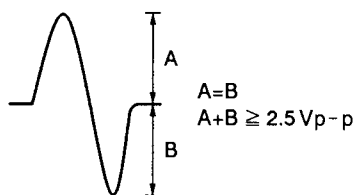

Figure 8
3. While watching the oscilloscope screen, press the PROGRAM key after pressing the RANDOM key and observe the waveform in Figure 8 for a moment. Verify that the amplitude is at least 2.5 V_{p-p} and that the positive and negative amplitudes are about equal. Since the waveform is only output for a moment when the PROGRAM key is pressed, press this key over and over until you have checked the waveform.